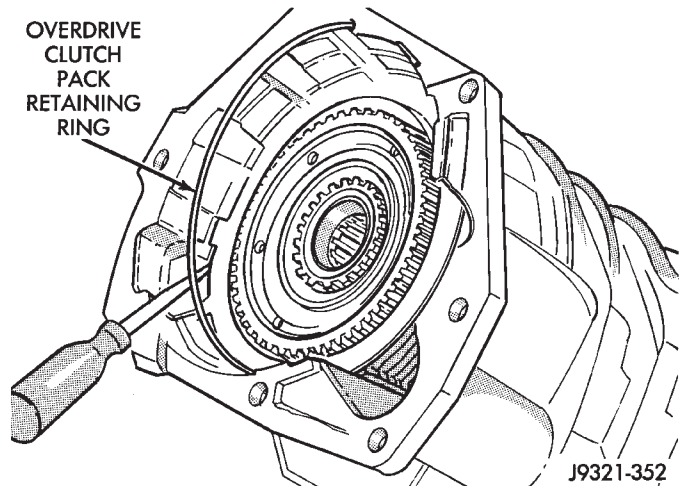

Fig. 197 Removing Overdrive Clutch Pack Retaining Ring
- (1) Remove overdrive clutch pack wire retaining ring (Fig. 197).